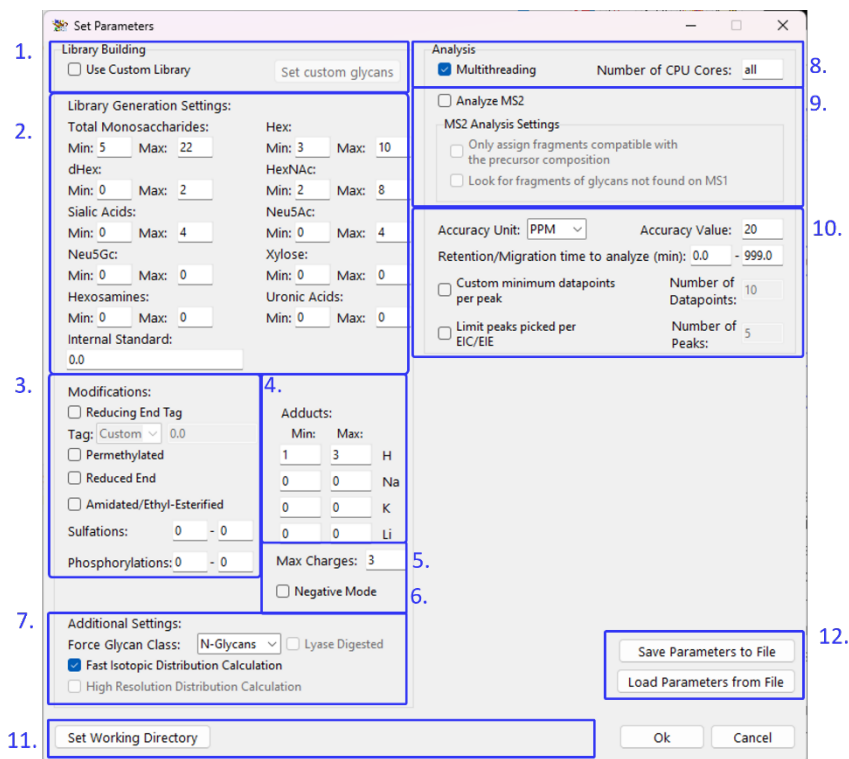

Fig. 9: Set Parameters window. Here you can set parameters for building a library of glycans and for the analysis itself.
3.3 Set Parameters Window (Fig. 9)